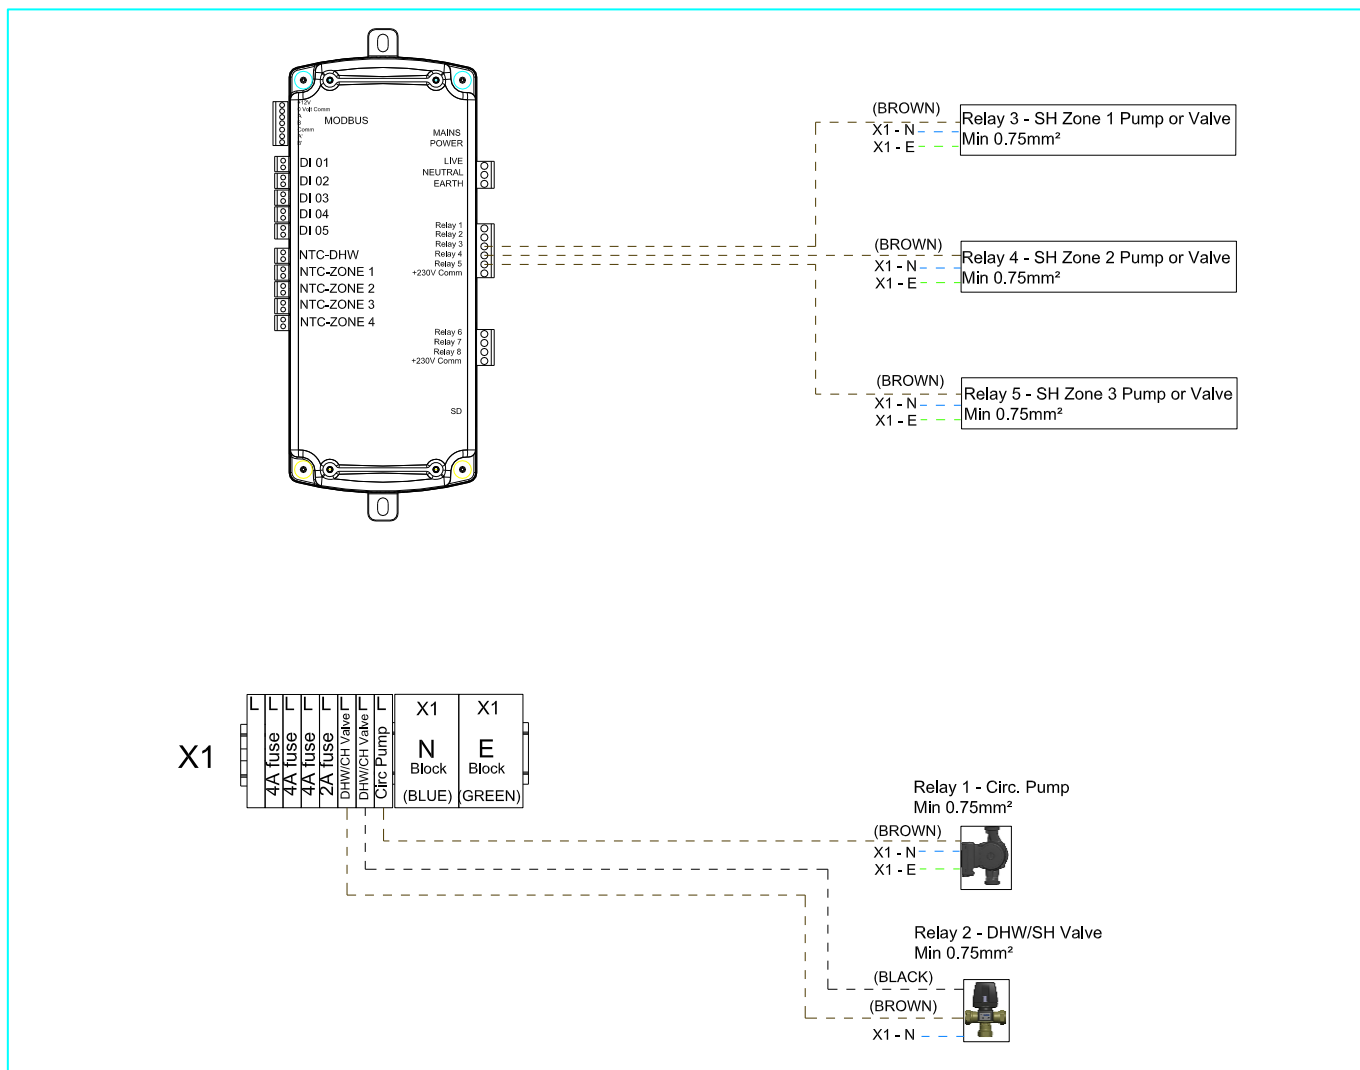

Figure 10: Zone connection
- Zoned connections must be wired via the cylinder PCB, i.e. circulation pumps and/or zone valves, 5.8.3. See Figure 10.
- Where additional zones are required, the installer must specify and source suitable components. Figure 10, illustrates wiring of each pump and/or zone valve for up to 4 zones.